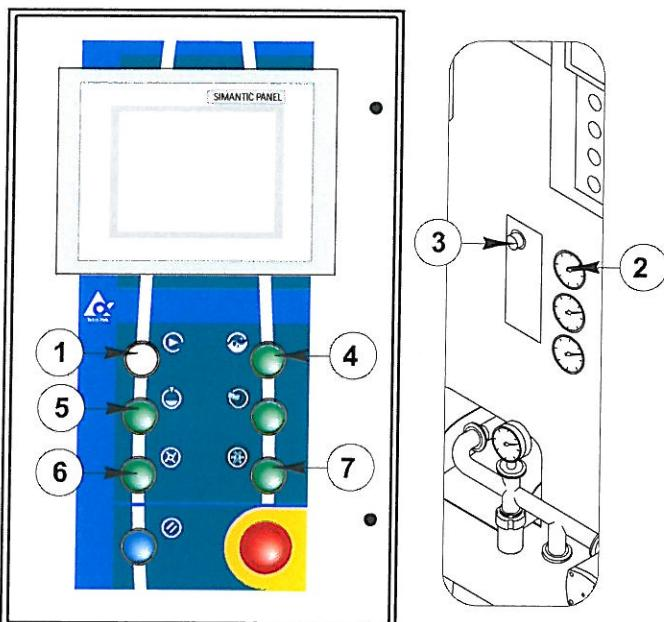

Fig. 6.4
- c. Start up the pump using the switch (*Pos. 5 - Fig. 6.4*).
- d. Start up the dasher using the switch (*Pos. 6 - Fig. 6.4*).
- f. Stop the dasher and the pump by pushing the switches (*Pos. 6 Fig. 6.4*) and (*Pos.5 - Fig.6.4*).